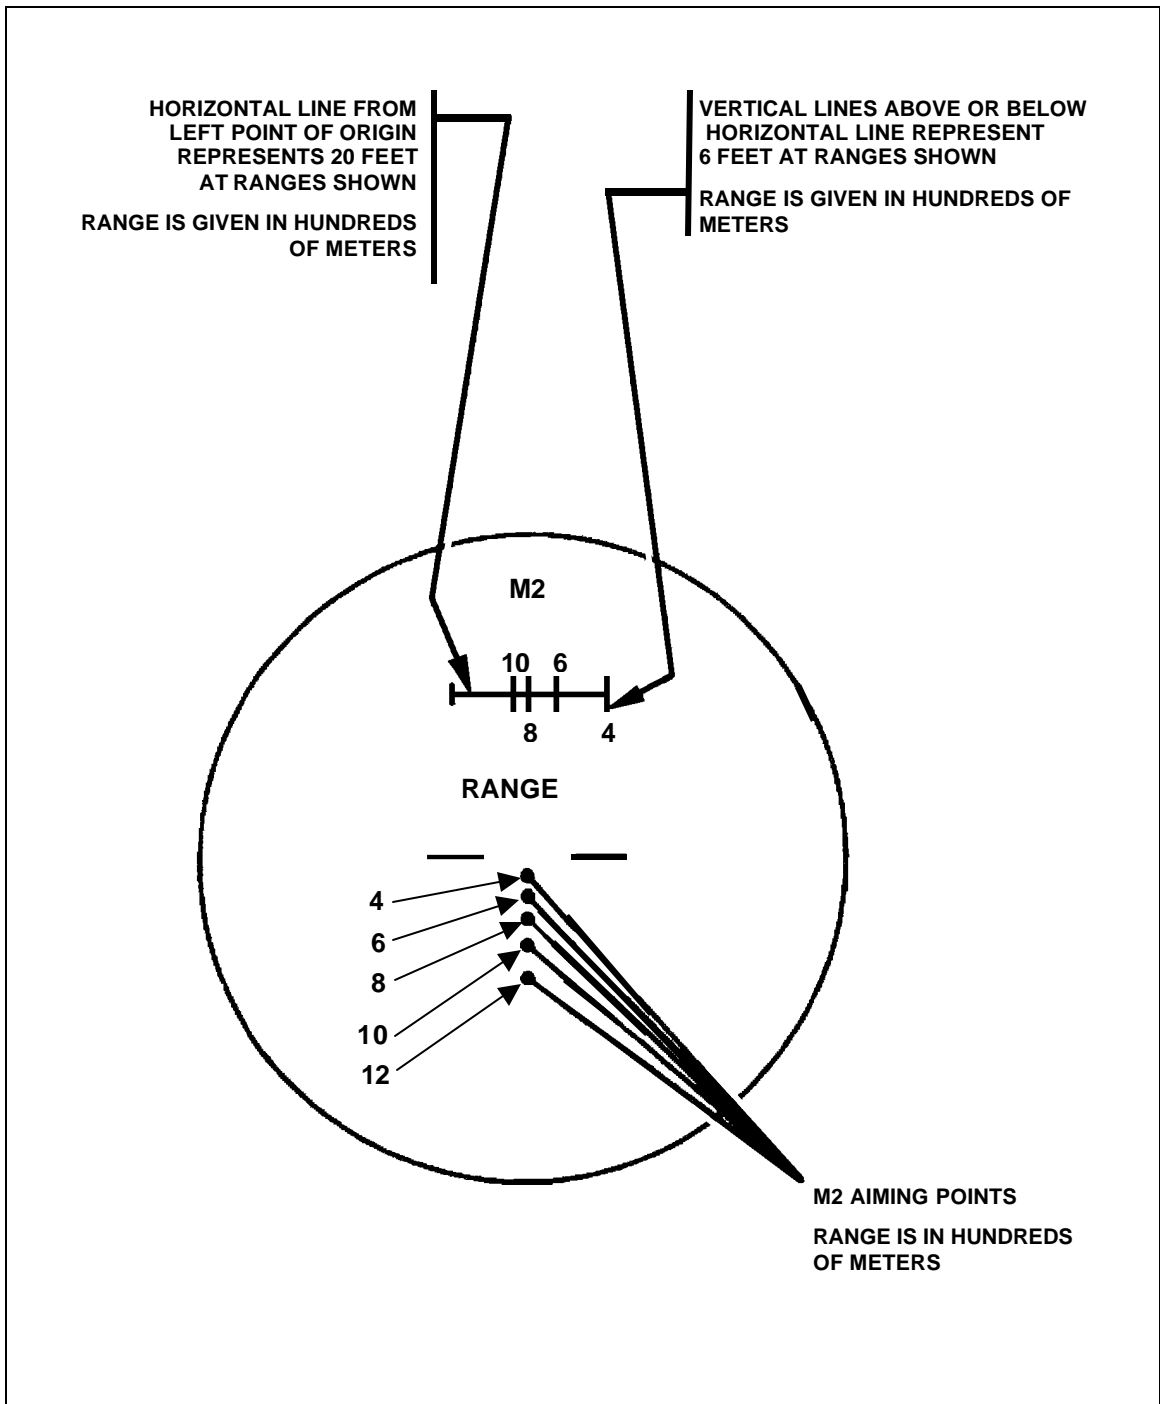
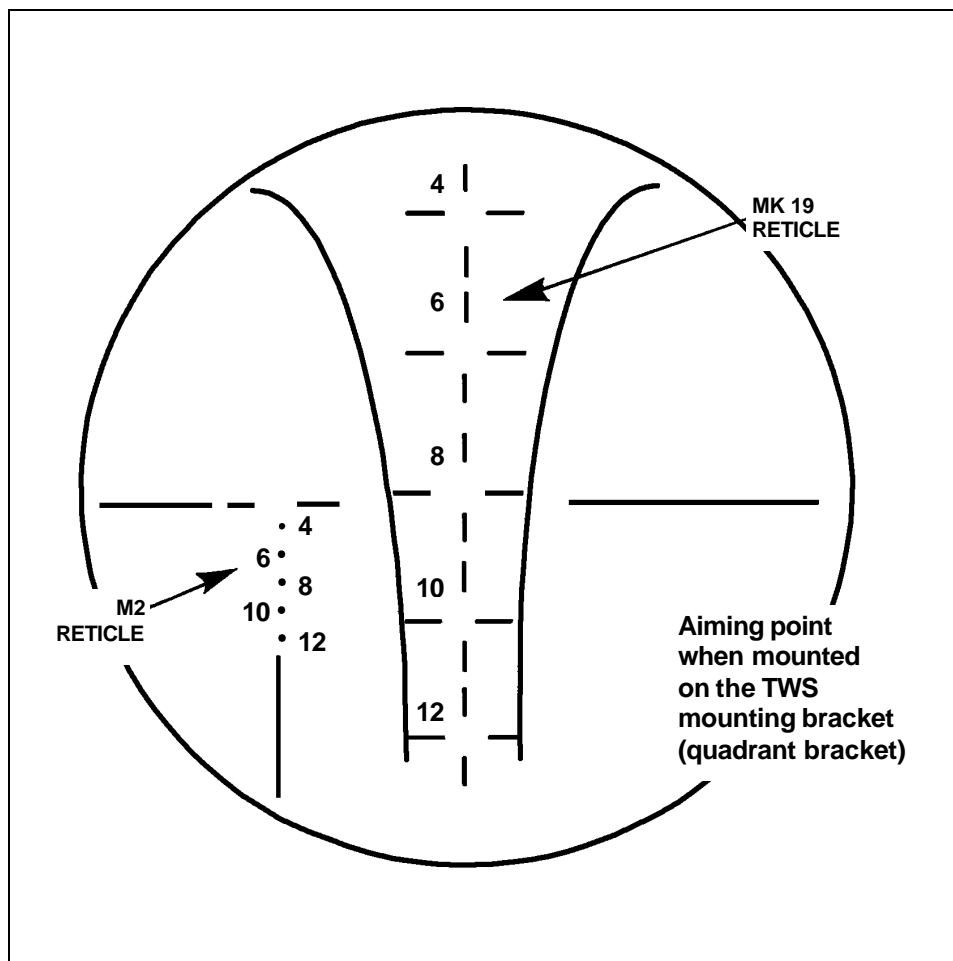

Figure G-6. Aiming points for the M2 (old reticle).
Figure G-7. Aiming points for the M2 (new reticle).
b. After determining range, use the aiming point designated for that range on the M2 reticle (Figure G-6, page G-12 shows the old reticle; Figure G-7, page G-13 shows the new reticle). If using the HWTS bracket and the M2 reticle, adjust the bracket to the nearest settings. Zero the sight on this setting and use the appropriate dot for the distance to the target as indicated in the reticle. For ranges beyond 1,200 meters, change the bracket to the far setting.